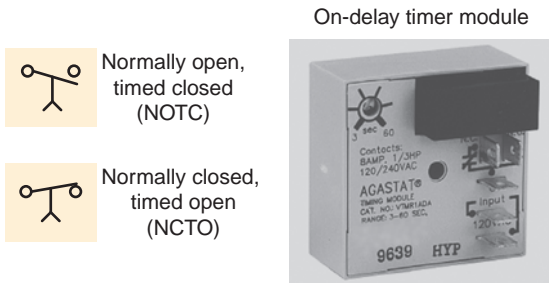

Figure 7-18 On-delay timer contacts.
The on-delay timer is sometimes referred to as DOE, which stands for delay on energize. The time delay of the contacts begins once the timer is switched on; hence the term *on-delay timing*. Figure 7-18 shows the NEMA symbols for the on-delay timer normally open (NO) and normally closed (NC) contacts. The operation of the timed contacts can be summarized as follows.